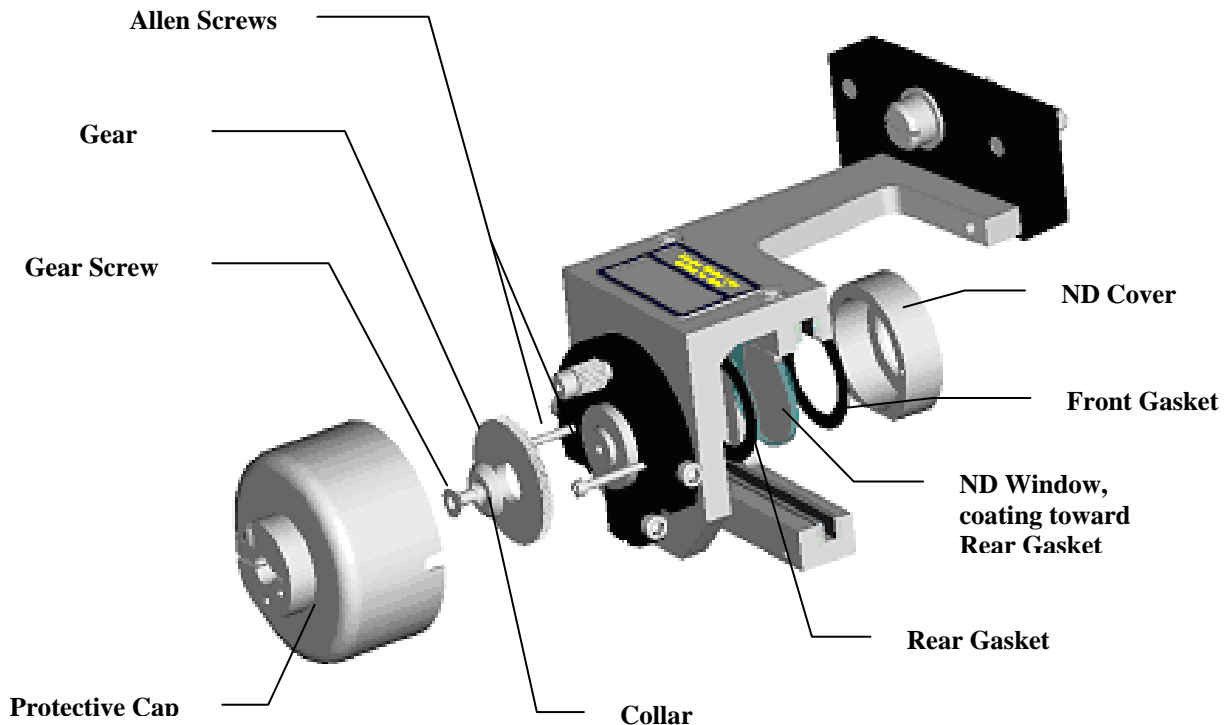

Figure 8-8
1. Loosen the cap screws and remove the cover that protects the Iris Adjustment Mechanism. See Figure 8-8.
2. Remove the gear screw, collar and gear. See Figure 8-8.
3. Remove the 2 Allen head screws holding the ND Cover. See Figure 8-8.
4. Remove the ND cover, front gasket, ND window and rear gasket. See Figure 8-8.
5. Re-assemble the rear gasket, new ND window, front gasket and ND cover as shown in Figure 8-8. *Note: The ND window must be installed with the coating side IN toward the rear gasket.*
6. Re-install the gear, collar and gear screw. See Figure 8-8.